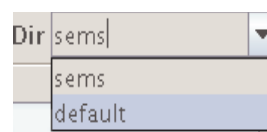

Figure 9. Dir Menu
3. Select a choice from the **Dir** menu, Figure 9, for the directory to save the page in.